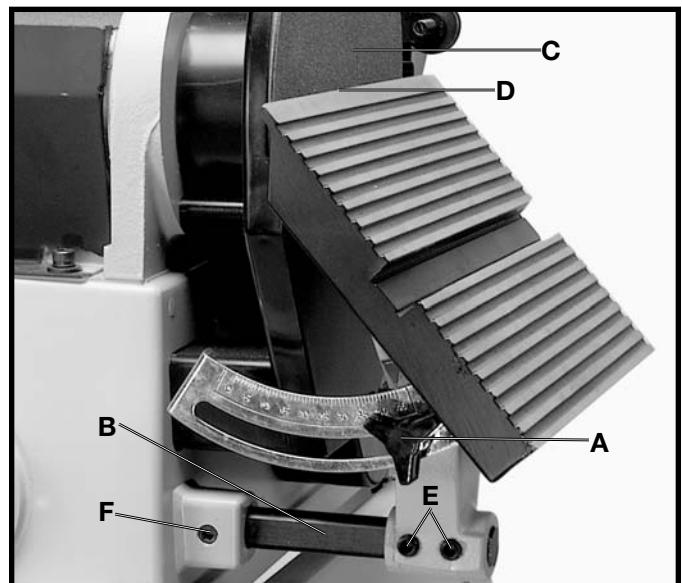

Fig. 27
2. The table can be tilted up to 45 degrees to the right by loosening the table lock knob (A) Fig. 27, tilting the table to the desired angle, and tightening table lock knob (A).
3. **WARNING: AFTER TILTING, THE TABLE ASSEMBLY MUST BE REPOSITIONED ON THE SUPPORT ROD (B) FIG. 27, TO PROVIDE A MAXIMUM OF 1/16 INCH DISTANCE BETWEEN THE SANDING DISC (C), AND THE EDGE (D) OF THE TABLE, TO AVOID TRAPPING THE WORK OR FINGERS BETWEEN THE DISC AND TABLE. TO REPOSITION THE TABLE ASSEMBLY, LOOSEN TWO SCREWS (E) AND/OR SCREW (F), MOVE TABLE ASSEMBLY ON ROD (B), AND TIGHTEN SCREWS (E) AND/OR (F).**